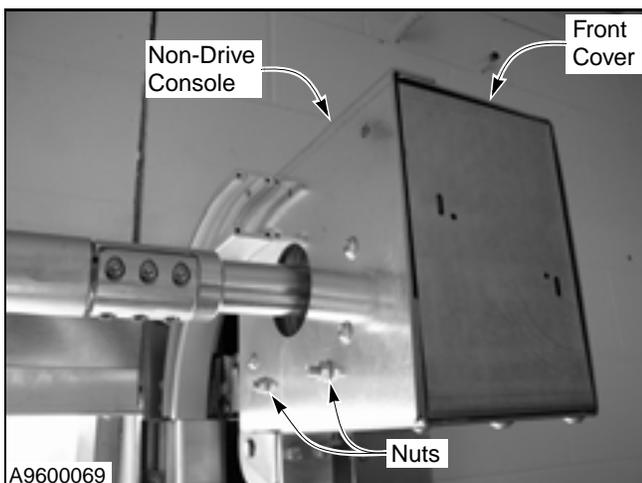

Figure 44
- Loosen the two nuts on the side of the console. (See Figure 44.)